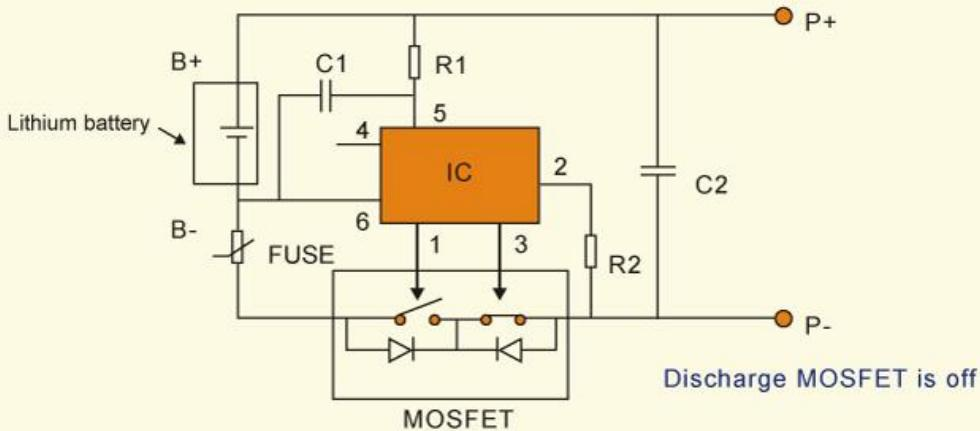
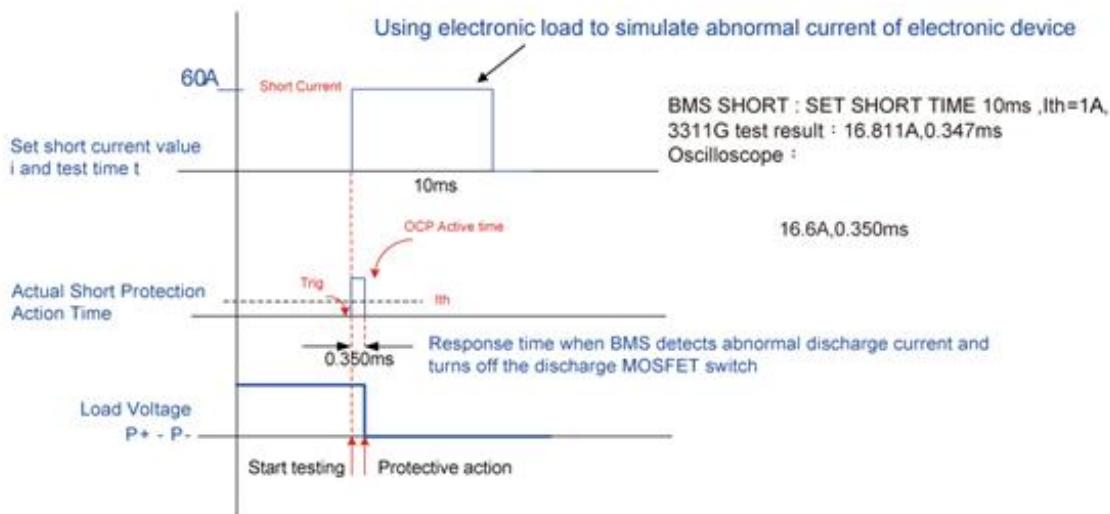

Figure 2.1 BMS internal architecture
Figure 2.3 3311G short-circuit current test procedure diagram
## 2.2 Short-circuit protection (SHORT) test method : Power supply (PS) & LOAD connection is shown in Figure 2.1, LOAD test procedure is shown in Figure 2.3.